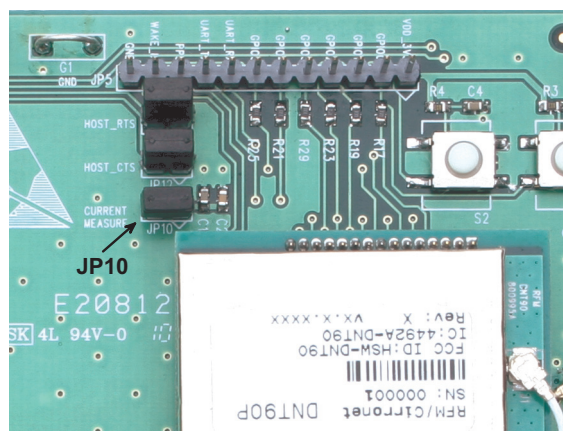

Figure 3
4. Confirm there is a jumper on JP10, as shown in Figure 3. The interface boards can now be powered by the 9 V wall-plug power supplies (the interface boards can also be run for a short time from the 9 V batteries for range testing, etc.).